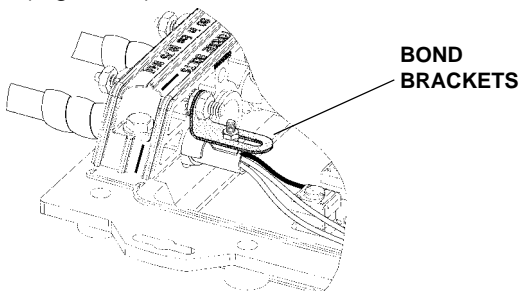

FIGURE 29 - CONNECT SHIELDS TO GROUNDING STUDS
12.01 For shielded cables, electrically connect the shield connectors to the grounding studs in the cable retainer plate with the bond brackets provided. (Figure 29)